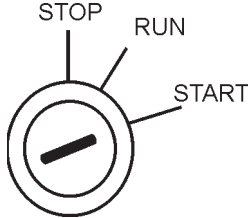

Figure 43. Ignition Switch (Start Position)
- Turn the ignition key to the **START** position (Figure 43). Once the engine starts, release the ignition key and allow it to return to the **RUN** position (Figure 41).